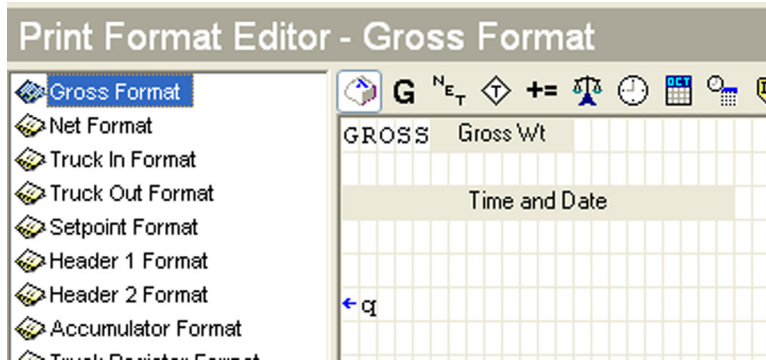

Figure 3-1. Print Format Editor
- *The **PRINT** key will print the standard Gross Format (see Figure 3-1) to the TM-U295 on Port 3.*